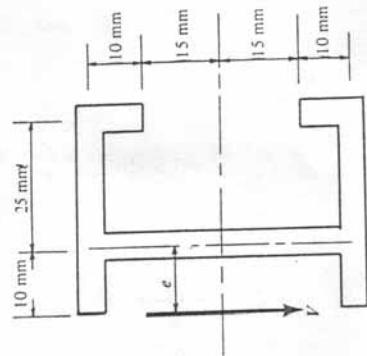

Fig. 13-36
13.15. Determine the shear center of the thin-walled section in Fig. 13-36.